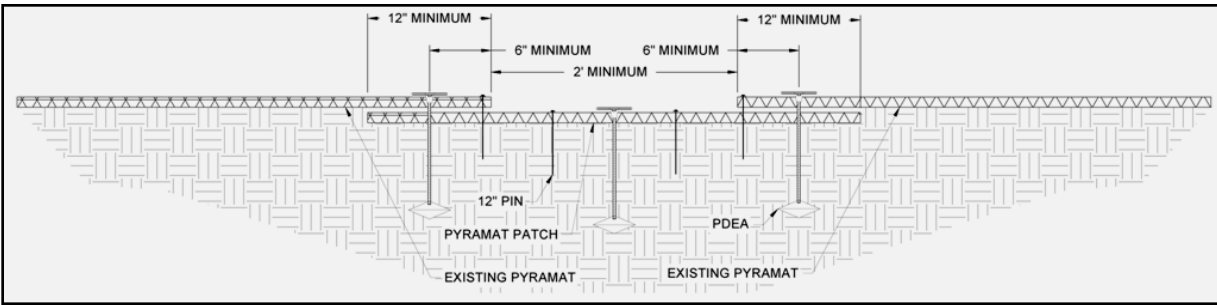
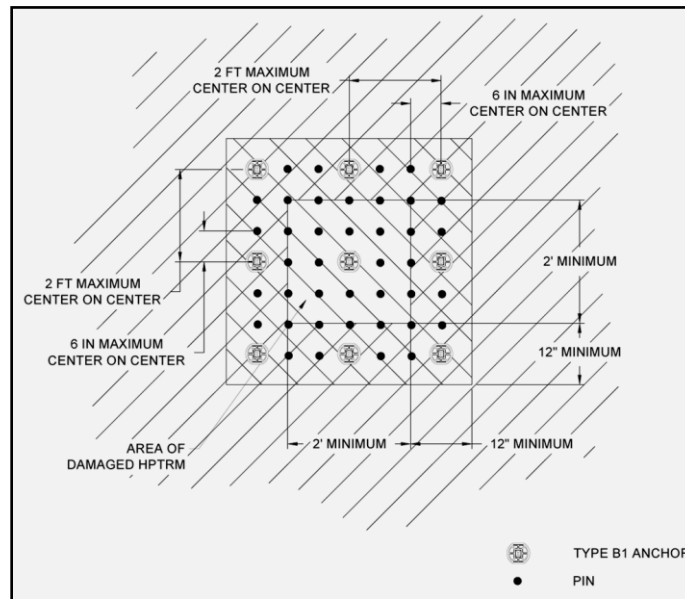

Figure 23: ArmorMax Patch Cross Section
Figure 24: ArmorMax Patch Plan View
- A. *Acceptable* (A) - The rated area is in satisfactory, acceptable condition, and will function as designed and intended during the rain event. ArmorMax has no exposed edges, is installed tightly by maintaining direct contact to the slope surface with no rilling beneath, and has over 90% vegetation cover. There is no noticeable damage present.
- B. *Minimally Acceptable* (M) - The rated area has a minor deficiency that needs to be corrected. The minor deficiency will not seriously impair the functioning of the area during the next rain event; however, the overall reliability of the project will be lowered because of the minor deficiency. ArmorMax has 75% vegetation cover with un-vegetated patches as large as one square yard. Edges of ArmorMax are exposed with noticeable damage. Minimal erosion has occurred underneath ArmorMax.
- C. *Unacceptable* (U) - The rated area is unsatisfactory. The deficiency is so serious that the area will not adequately function in the next rain event. ArmorMax has been physically torn, ripped, or lifted from the slope surface. Less than 75% vegetation cover is present with un-vegetated patches being greater than 1 square yard, and there is evidence that erosion is occurring beneath ArmorMax.
3. To repair ArmorMax, cut out and remove damaged areas in a square configuration a minimum size of 2 ft by 2 ft. Remove all vegetation and debris atop of ArmorMax. Loosen the top 1 to 2 in of soil in the patch area then seed. The subgrade of area to be patched shall be prepared to be smooth and uniform and transition smoothly into the in-situ area. Cut a square Pyramat patch a minimum of 12 in greater than the damaged area for all four sides of the patch. Overlap the patch area in all directions a minimum of 12 in. The patch overlaps shall be tucked under the existing damaged Pyramat material (Figure 23 and Figure 24)